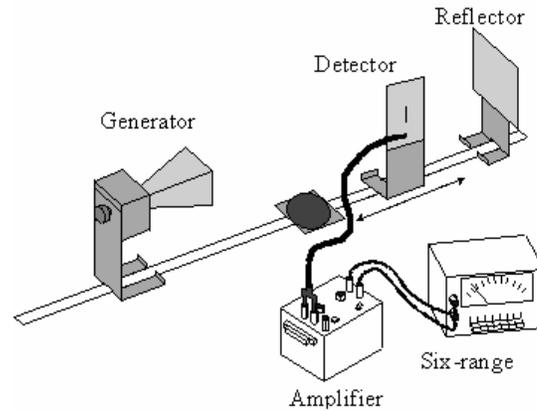

Figure 9
Consider the configuration shown in Figure 9 (below). The incoming field from the generator will be reflected from the metal plate and subsequently interfere with the incident wave. We can
4. Using a BNC-to-banana adapter, plug the probe into the IN of the amplifier. One of the arms of the BNC-to-banana adapter has a tab, which indicates it should be plugged into the ground (black) terminal. Position the diode at about 50 cm from the front of the microwave generator's horn and oriented vertically, as shown in Figure 9. Make sure the orientation of the generator is 0° .
6. Place a reflector (solid flat piece of metal) behind the detector probe, as shown in Figure 9. This will produce a standing wave between the generator and the reflector.